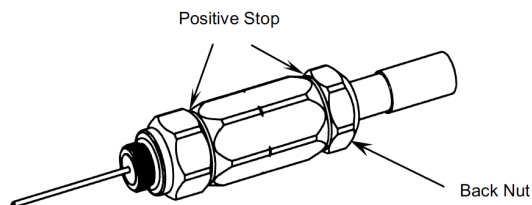

Fig. 8
7. Tighten **BACK NUT** by hand, then, using two wrenches, one on the **MAIN NUT**, complete the installation by tightening **BACK NUT** until the positive stop is engaged as shown in Figure 8. The front leading edge of **BACK NUT** will contact mating surface of the **MAIN NUT** causing an increase in the tightening torque.